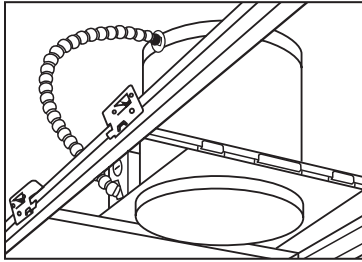
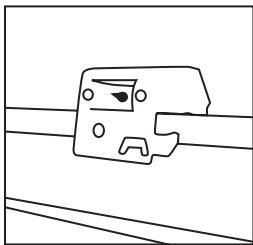

Figure 6
Figure 7
**Step 3.** Place fixture into position and snap bar hanger foot with integral T-bar clips onto T-bars (Fig. 6). Additional holes provided for securing with wire or screws (Fig. 7).